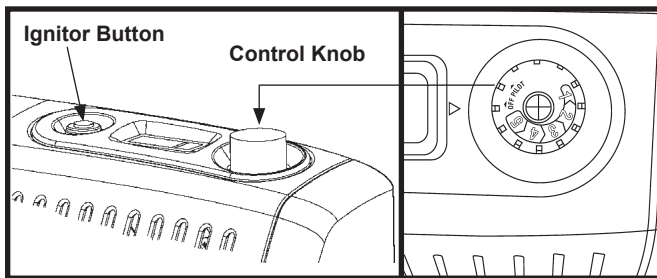

Figure 16.
3. Push in gas control knob and slightly turn clockwise  to the OFF position (see figure 16).
4. Wait five (5) minutes to clear out any gas. Then smell for gas including near the floor. If you smell gas, STOP! Follow "B" in the safety information above. If you do not smell gas, go to the next step.
5. Push in and turn control knob counterclockwise  to PILOT. Press in control knob for five (5) seconds.